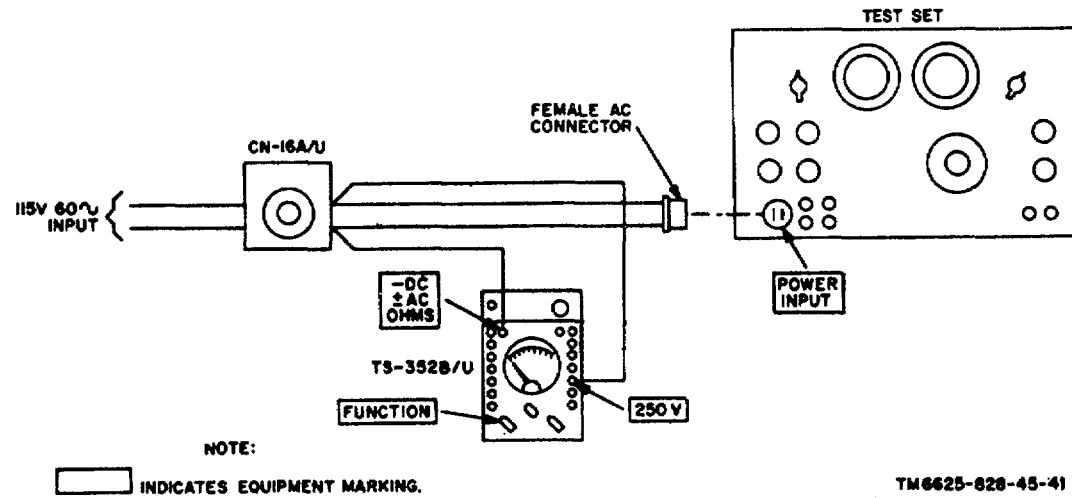

Figure 4-4. Power supply test setup.
b. Test Connections and Condition. Connect the test equipment as shown in figure 4-4.